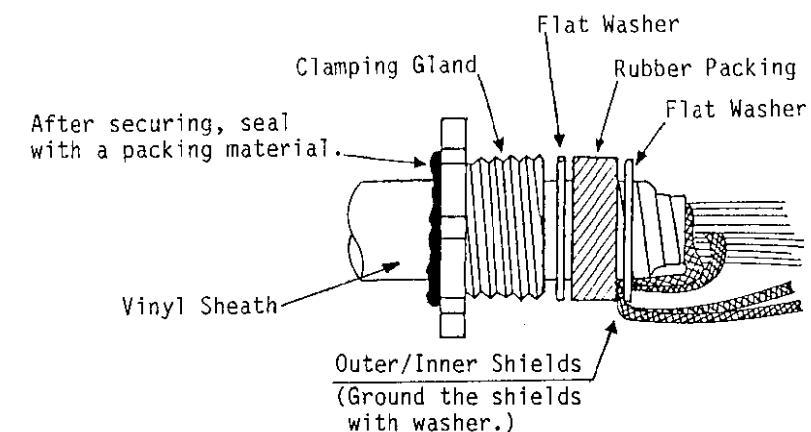

Fig.14
- (10) Remove approx. 6mm of the vinyl insulation from the end of each wire, and fix crimp-on lugs on each wire and outer/inner shields by using a crimping tool. Make sure each connection is secure both mechanically and electrically.
- (11) Secure the clamping gland to the body, then seal with a packing material. See Fig.14.